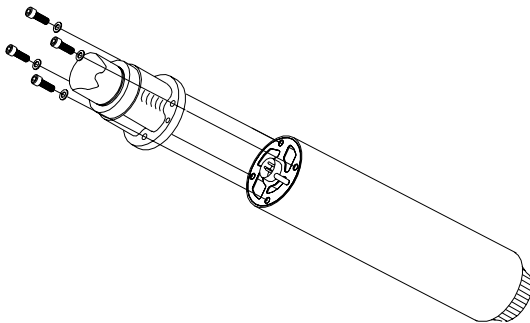

Figure 4.2 Removing the UMP
- 2: Remove the old UMP by removing the four bolts holding the discharge head as shown in figure 4.2.